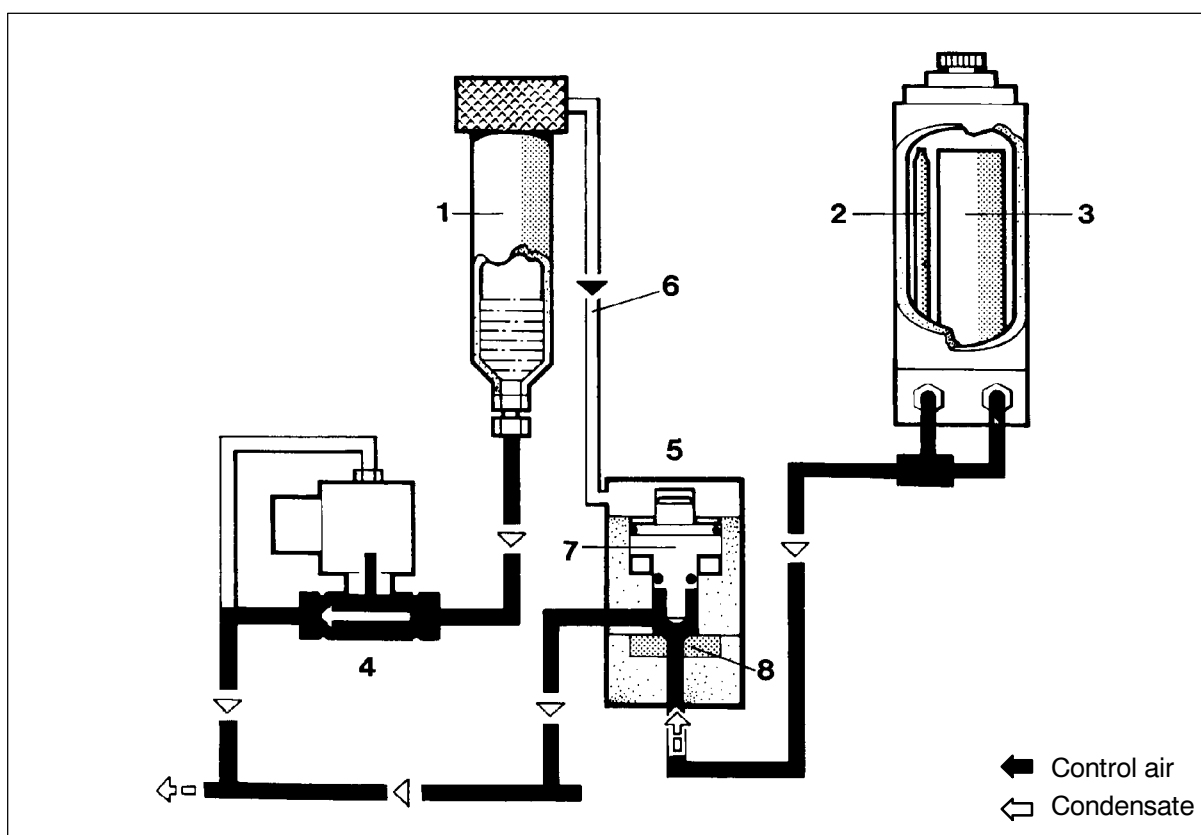

Fig. 23 Condensate drain
All positions refer to Fig. 23. Every 15 minutes, 3/2-way solenoid valve (4) is deenergized for approx. 10 seconds by the timer. Solenoid valve (4) opens and drains the condensate from the 2nd stage intermediate separator (1). Due to the pressure loss in intermediate separator (1) the control pressure for condensate drain valve (5) for the TRIPLEX filter (2,3) is also removed. The servo-piston (7) of the condensate drain valve is unloaded, the control pressure vented through the relief port.